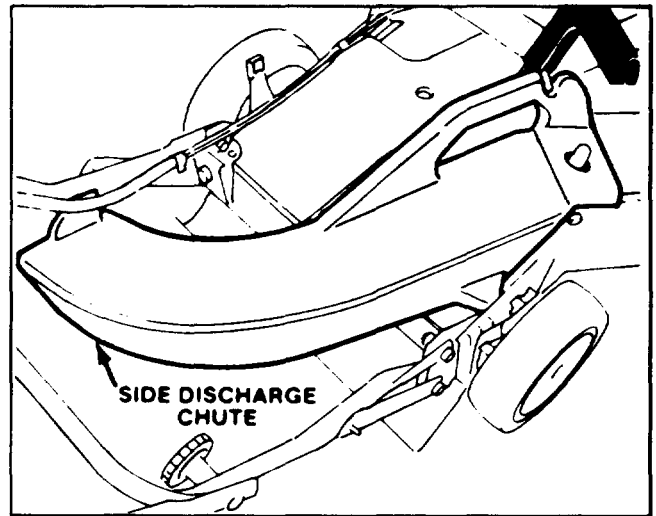

Figure 21
2. **Recycler® Side Discharge Kit, Model No. 59180**—Install discharge tunnel and rear mounted side discharge chute to convert Recycler® mower to a side discharge mower (Fig. 21). Includes discharge tunnel plug.